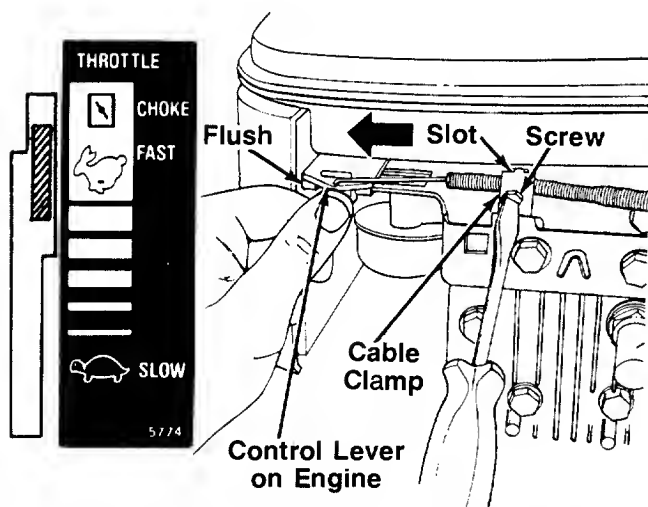

FIGURE 6D.—Models 416R, 419R, 426R & 429R
1. Push the throttle control lever on the handle all the way forward to **CHOKE**, then back it off **two "clicks"** (approximately 5/16"). See figure 6D.
2. The throttle control cable is attached to the upper handle. Route the throttle control cable under the lower handle and inside the handle mounting bracket. Hook the "Z" end of the throttle control cable into the hole in the control lever on the engine. See figure 6D.
3. Using a 5/16" wrench or nutdriver, remove the screw on the cable clamp shown in figure 6D. Slip the control cable under the clamp. Replace the screw (cable should be above the screw), but do not tighten (cable must still move freely beneath the clamp). Make certain the tab on the cable clamp is seated into the slot on the engine.
4. Push the control lever on the engine as far toward the **outside** of the engine as it will go. The edge of the control lever should be flush with the bracket on the engine. See figure 6D. Hold the control lever in this position as you tighten the screw on the cable clamp to secure the throttle cable.